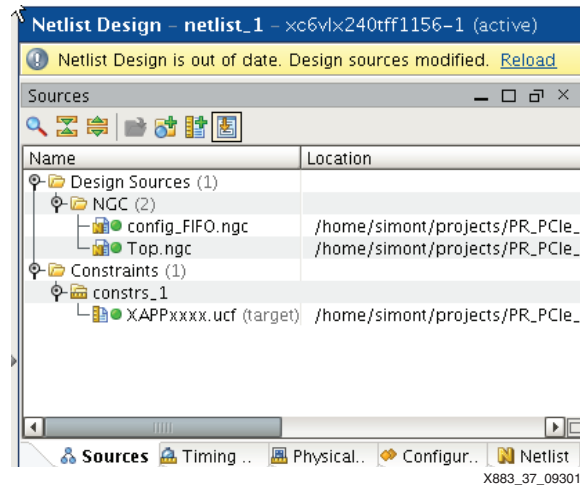

Figure 37: Reload the Top-Level Netlist
9. Select the new top-level netlist and click **Open**. The PlanAhead software asks the user to reload the netlist. Click **Reload** (see Figure 37).